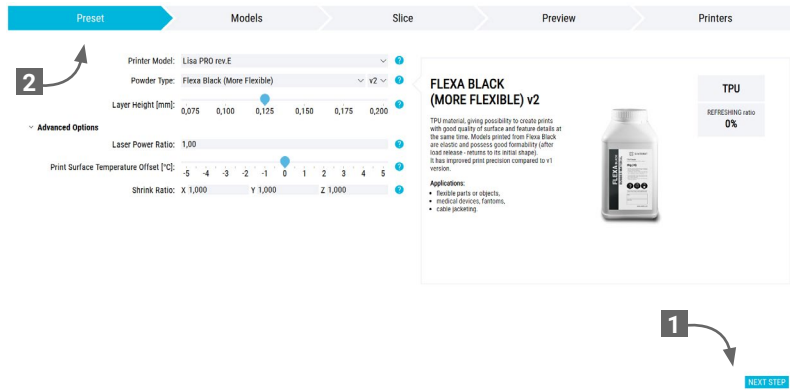

Fig. 2.22 Moving on to the next step.
Move on to the next step by clicking **Next step** (1) in the bottom right corner of the window or **Models** (2) at the top of the dialog. (Fig. 2.22)